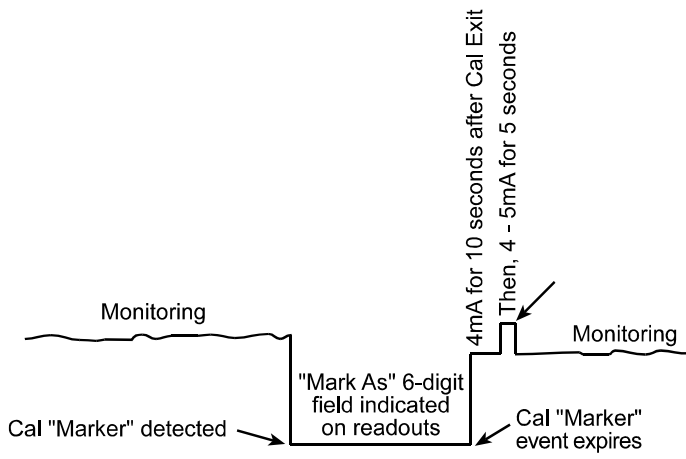

Figure 2.6
**Sensor Life** should only be activated when the Marker event is *Calibration* and when a sensor life value is transmitted after each calibration. This feature is provided primarily for use when interfacing the C1 to R. C. Systems’ GASMAX ECX Sensor Transmitters which may be configured to transmit sensor life values after each calibration (see Figure 2.6). For **Sensor Life** to record properly the monitor must perform as follows: After the *Calibration* Marker interval, 4.0mA transmits for 10 seconds to indicate its *calibration mode* is complete. The monitor then transmits between 4.0mA and 5.0mA for five seconds depending on remaining sensor life where 4.0mA = 0% and 5.0mA = 100% remaining sensor life. The C1 reads this value and records it as the channel’s **Sensor Life**. **Sensor Life** is stored in the C1 modbus database and displayed as a bar-graph in the Sensor Info screen (see section 2.3.6). It is a useful tool for planning sensor replacement schedules.